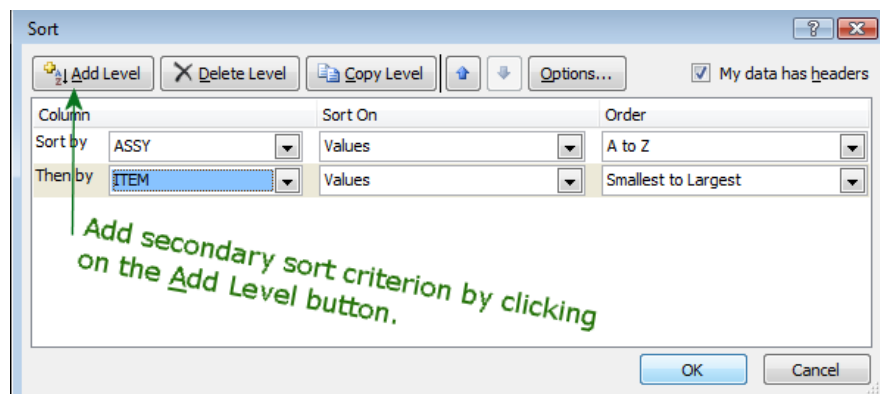

Figure 8. Re-Sorting by ASSY (Primary) and Item (Secondary)
17. **Re-Sorting BOMs** - Once again highlight (select) all of the columns and rows associated with the combined BOMs including the header, then select the **Data, Sort, Expand on Selection, Sort... Sort by** and select “**ASSY**” as the main column for re-sorting (see Figure 8). If the BOM has an “Item” column, use it as a secondary sort criterion. Click on OK. The BOM will now be re-arranged such that all parts are again grouped according to their respective assembly.